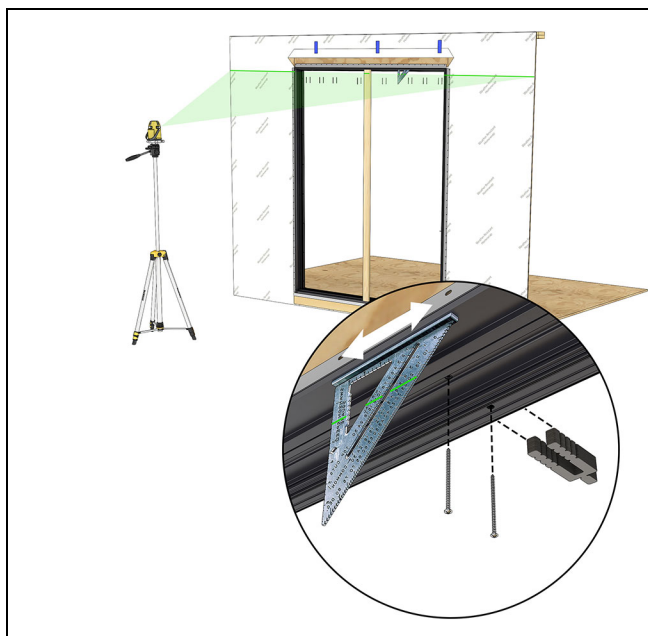

Figure 52
7. Move the speed square along the head jamb. At each fastener location, note the position of the laser line compared to the mark on your speed square. (Check both interior and exterior) Starting at the center, shim and fasten with #10 x 3" (76) screws at each location until the laser line is aligned with the mark on your speed square. Complete the shimming and fastening process across the length of the head jamb. See Figure 52